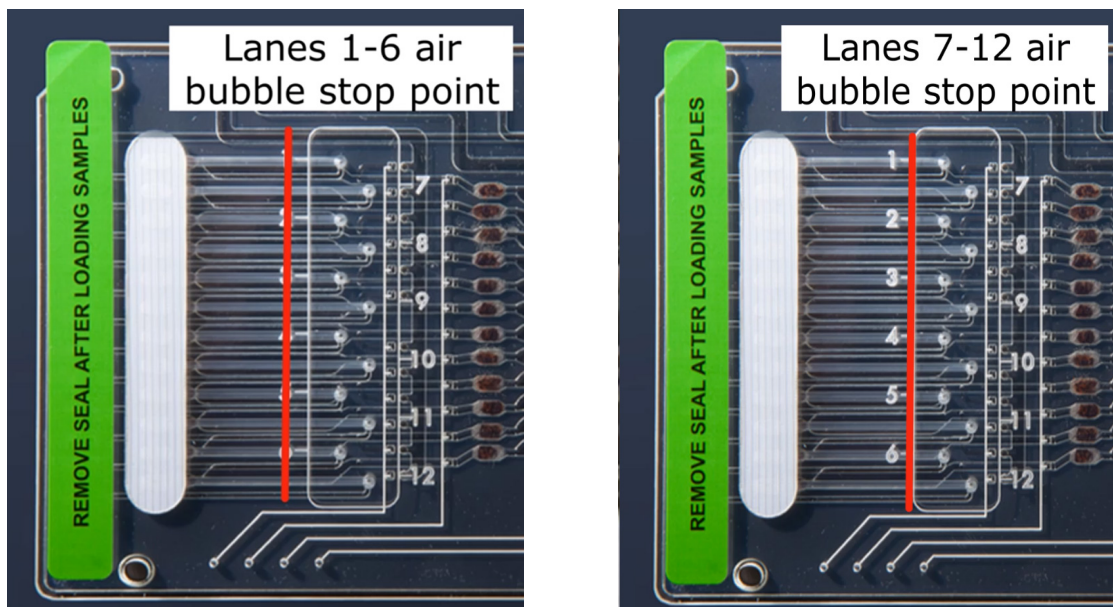

FIGURE 5.3 Introduce an air gap of defined size, as illustrated by the red lines.
- b. **Introduce an air gap of defined size.** For samples 1-6, introduce an air gap to the lane numbers 1-6 molded on the cartridge. For samples 7-12, the ports are offset so an air gap should extend only to the vertical line. See **FIGURE 5.3** for an example.